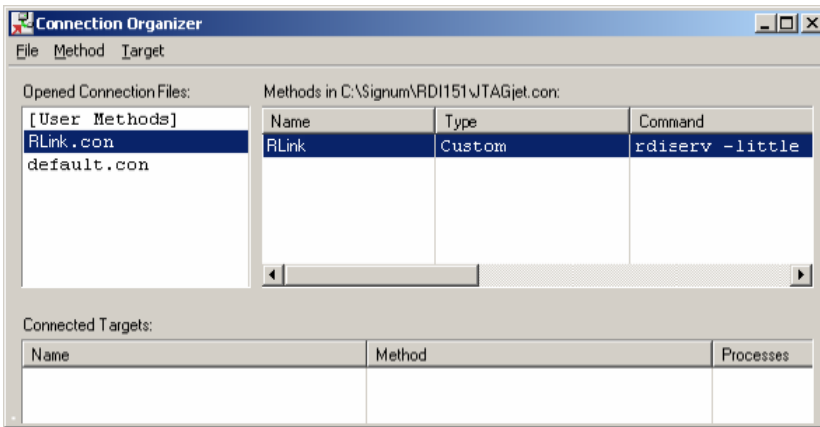

FIGURE 12 Choosing the RLink.con file in the Connection Organizer.
2. In the Connection Organizer dialog box (Figure 12), select Open from the File menu and navigate to the RLink.con file. In a standard installation, the file is found in the C:\Signum\RDI\Config\Multi directory.